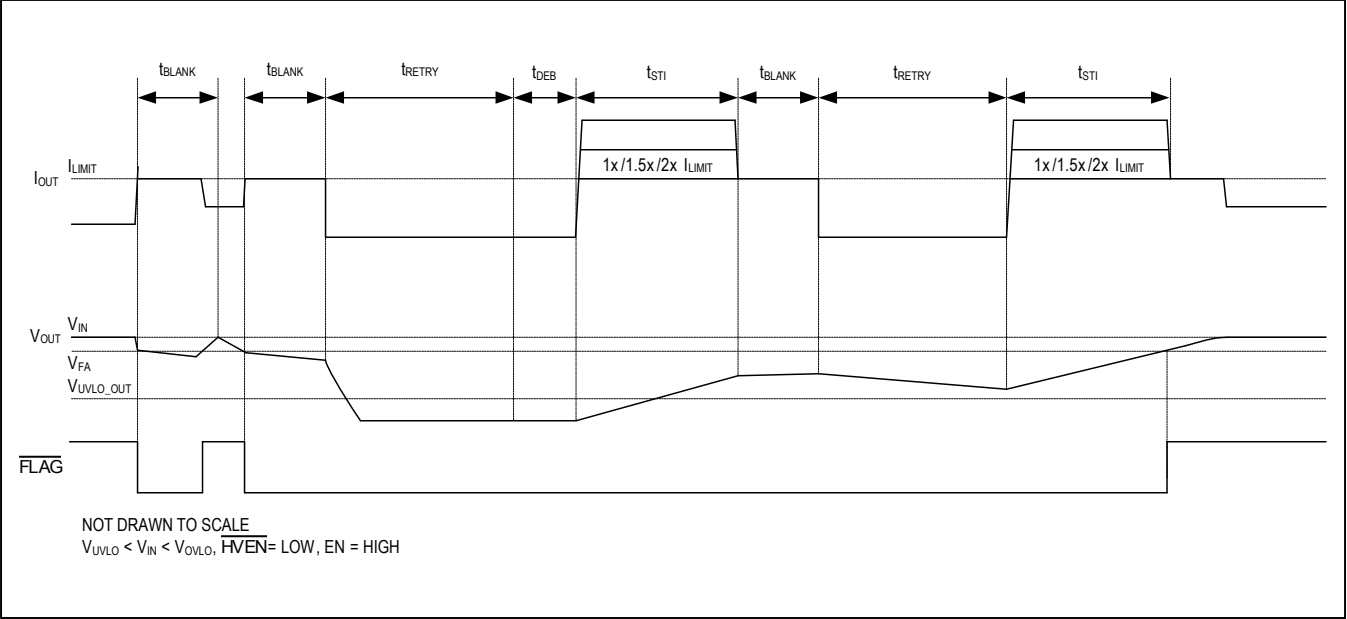

Figure 3. Autoretry Fault Diagram
| Autoretry Time                      | t RETRY   | (Figure 3, Note 7)                                                                                                                                                      | 554   | 720  | 792  | ms    |
**Autoretry Mode (Figure 3)**